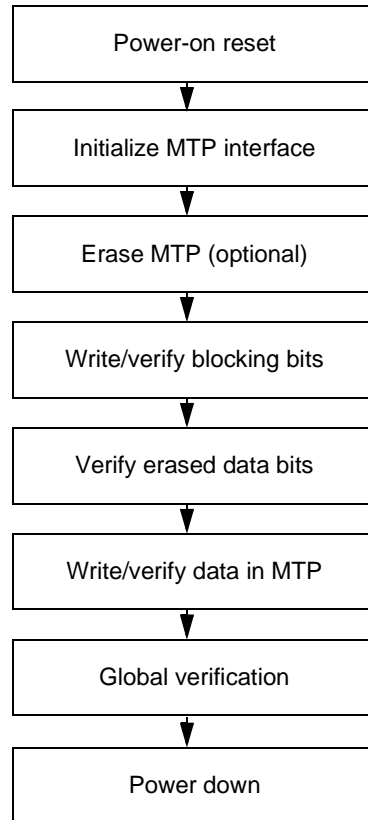

Figure 2.1: Default MTP programming algorithm.
2. The programmer must lock the chip in test mode and write two times 0x80 to **RegEEP1**, in order to give control of the flash array to the interface (that is the MTP interface initialisation sequence in Figure 2.1).